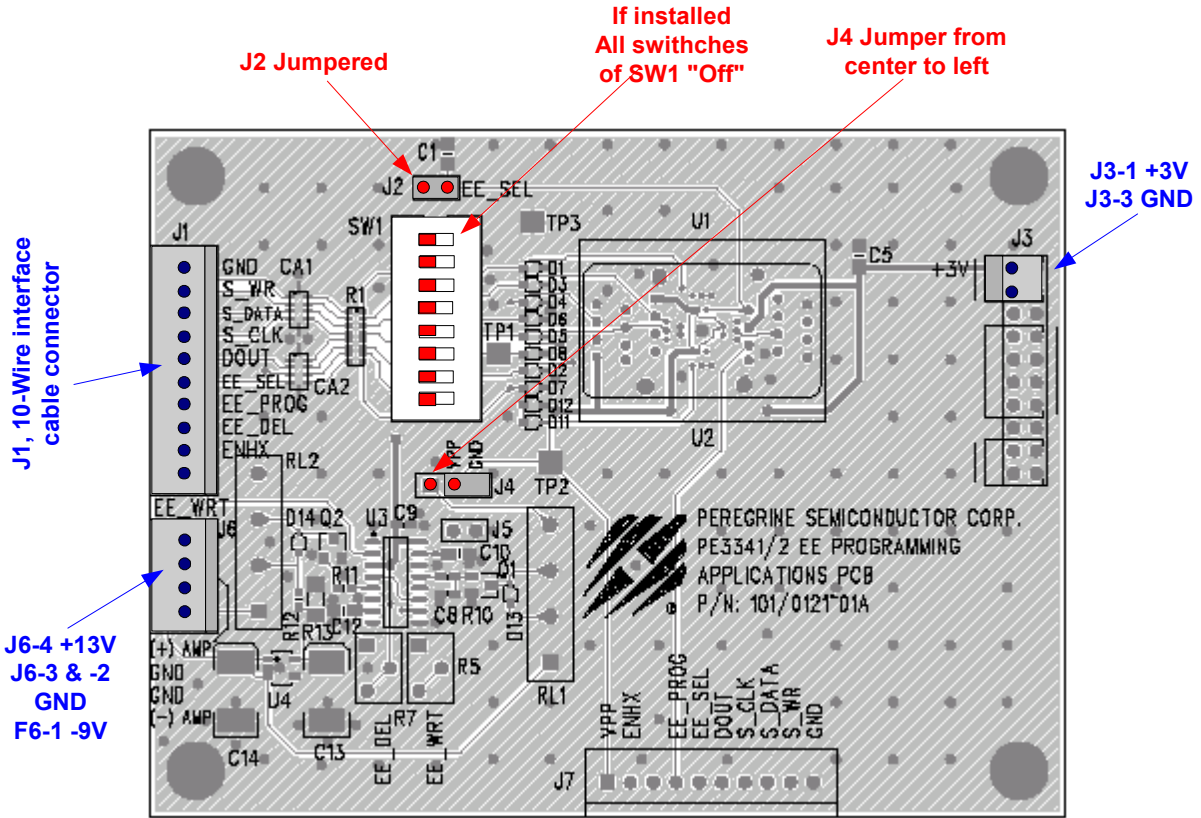

Figure 1. PE3341/2 EEPROM programming board default jumper & switch settings
1. As shown in Figure 1, verify a jumper is placed on the connector J4 between VPP Pin 2 (VPP, the center pin) and Pin 1 (pin at left).
5. Connect power supply cables to the EEPROM programming board as shown in Figure 1. Verify all supplies are turned off prior to connecting to programming board.